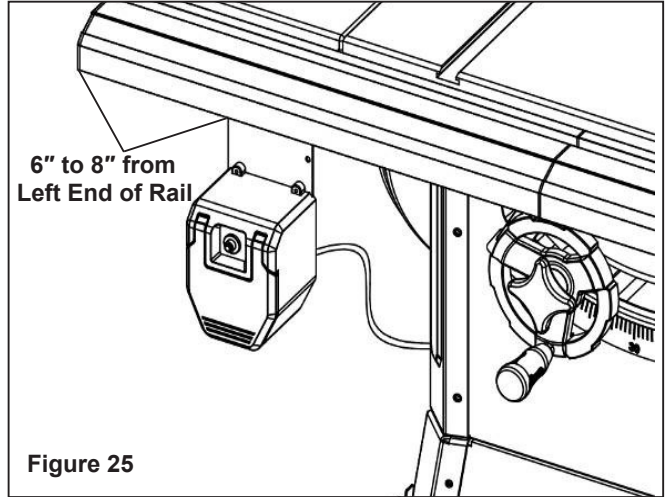

Figure 25
Refer to Figure 25.
- Slide switch assembly 6" to 8" from left end of rail as shown in Figure 25.